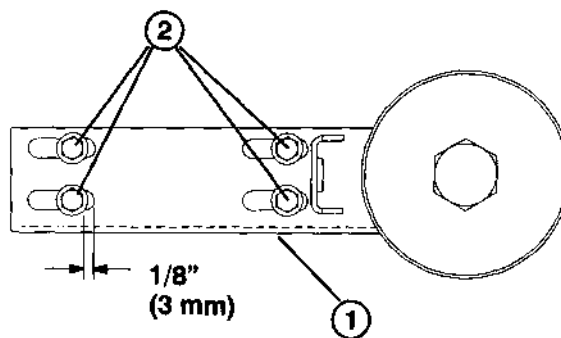
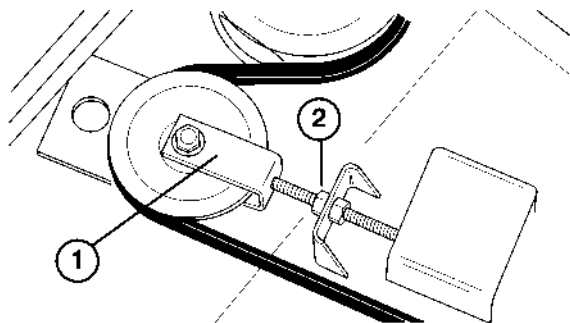

Figure 63
Figure 64
2. Note position of shoulder bolts in slots in tension plate. Optimum belt tension will be maintained when the flanges on the shoulder bolts are 3 mm from the pulley ends of the slots (Fig. 63). If the shoulder bolt flanges are more than 9 mm from the pulley end of the slots, an adjustment should be made.
3. To adjust, loosen the jam nuts (Fig. 64) and extend the tension arm until the shoulder bolt flanges are within 3 mm of the pulley end of the slots (Fig. 63).
2. Loosen the jam nuts securing the tension plate until the compression spring on the idler assembly is relaxed (Fig. 64).
2. Remove the deck covers and relieve belt tension on all belts (Fig. 64).